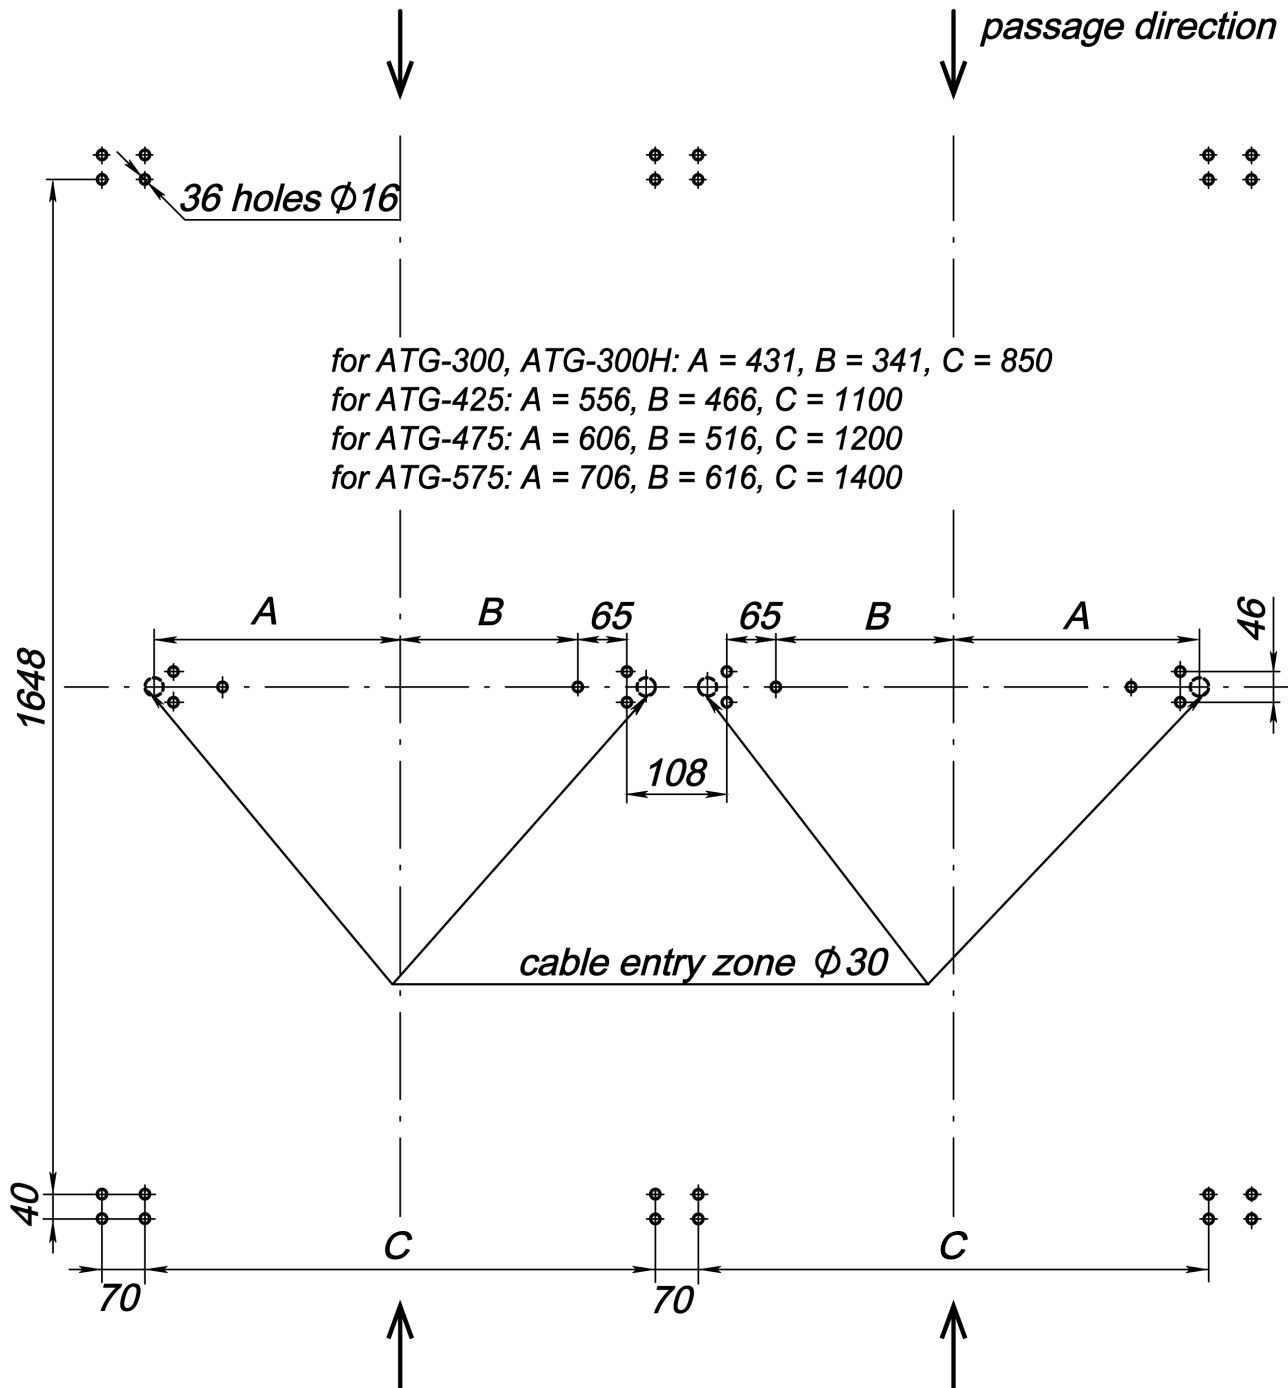
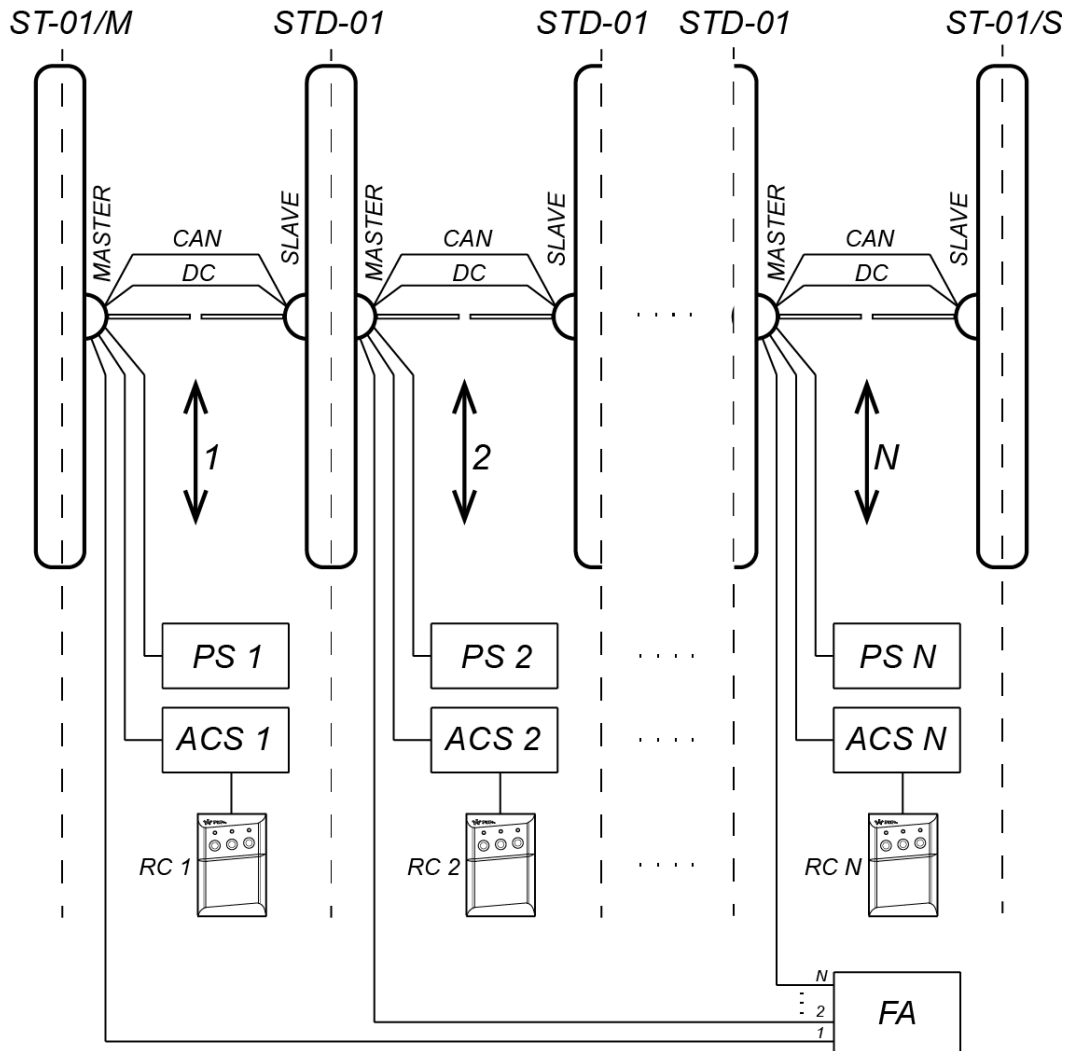
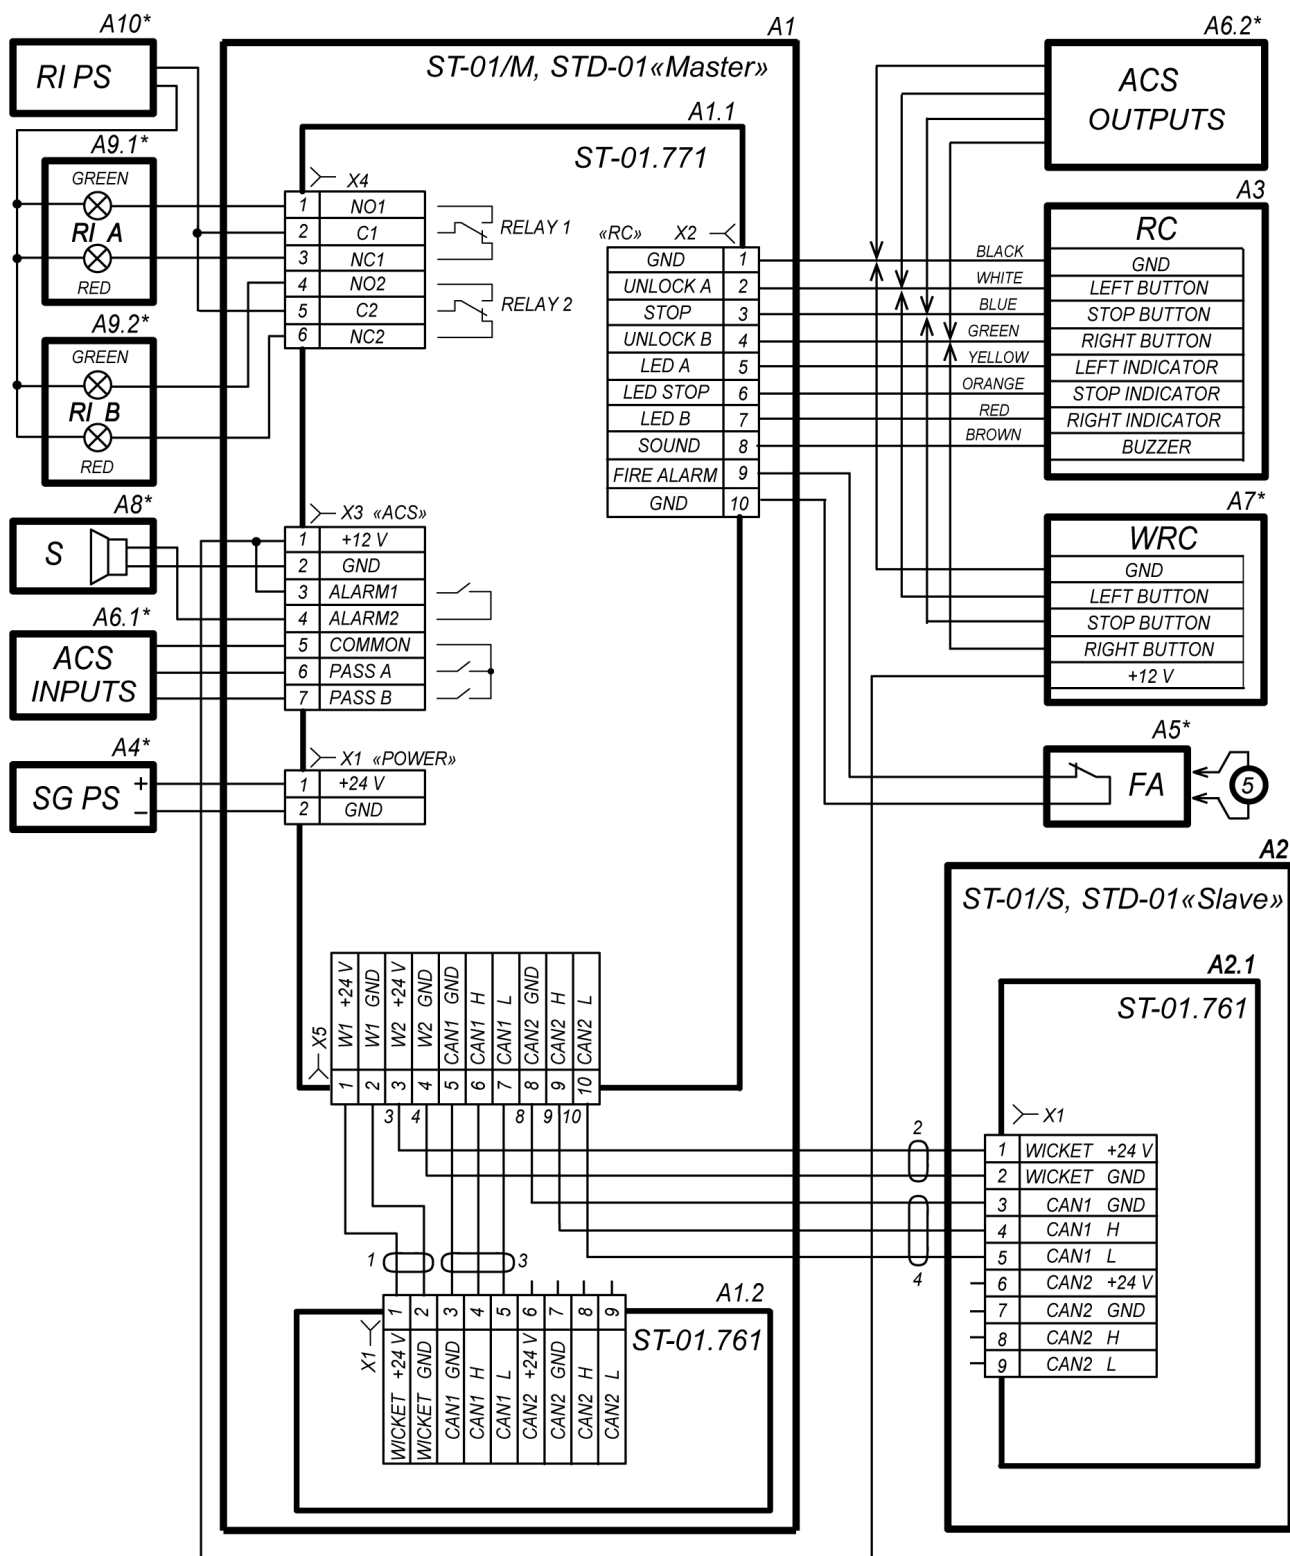

Figure 17. Speed gate and double-sided section marking layout
Figure 18. ST-01 speed gate and STD-01 double-sided section wiring diagram
Figure 19. Speed gate wiring diagram
Speed gate connection layout is given in Fig. 18. Types of cables used are stated in Sect. 8.3. The example of **ST-01** and **STD-01** connection layout with extra passage lane arrangement is shown in Fig. 17.
When it is impossible to use flexible conduit for cabling, then it is necessary to route DC and CAN cables prior to the sections installation. These cables are located under the housing of the *Slave* section central post (side of the section). To do so it is necessary to unpack the *Slave* section, dismantle the housing of the central post (see Fig. 19), take out DC and CAN cables and disconnect them from the drive control board. There are numbers on the cut-off ends of the core that correspond to the connection layout (Fig. 18).
14. Route cables for controlling the second passage lane by using the hole located in the base plate of the double-section central post (from the *Master* section side): from PS, from RC-panel or ACS-controller, from the Fire Alarm device and from optional equipment. Route DC (19) and CAN (20) cables from the *Slave* section (side of the section) or a flexible conduit for cabling.
20. Connect cables to the control board of the first passage lane according to the speed gate electric connection layout (see Fig. 10 and Fig. 18). The control board is located in the bottom side of the *Master* section central post.
DC (2) and CAN (4) cables should be connected to the **X5** terminal blocks of the *Master* section control board and to **X1** terminal blocks of the *Slave* section drive board in accordance with the conduit marking (see Fig. 18).
To remove the central post cover plate (5), pull the cover plate down along the post, take it aside from the post, bringing the hooks from slots in the central post (Fig. 19).